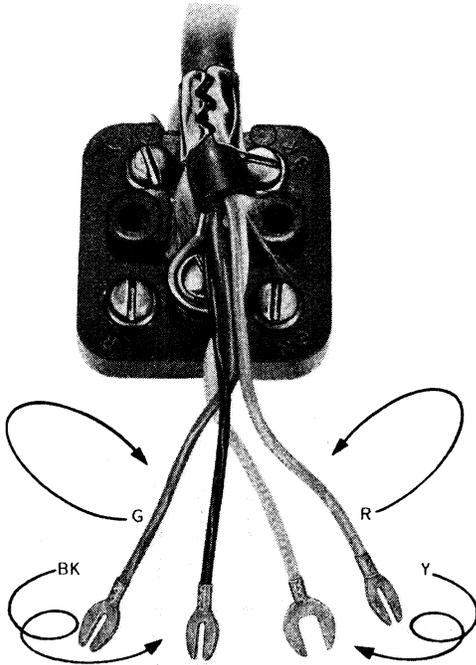

Fig. 12—D4BP Cord Ready to Terminate
(3) With small eye of S hook up, insert RM-658901 self-tapping screw with P-284139 flat washer through large eye of S hook. Using farthest hole opposite cord entrance (Fig. 12 and 13), anchor cord securely.
(4) Lay the cord conductors out straight from the cord (Fig. 12). Pass the green conductor clockwise under the cord stay and terminate it on the GN punching. Pass the red conductor counterclockwise under the cord stay and terminate it on the R punching. Pass the yellow conductor clockwise, under and then over the top of the cord stay. Terminate on the Y punching. If the black conductor is used, pass it counterclockwise under and then over the cord stay. Terminate it on the BK punching.